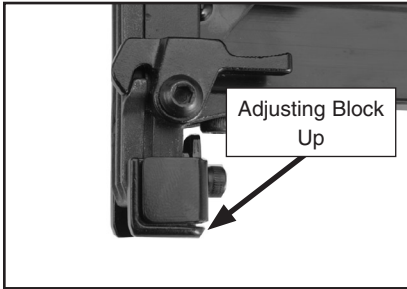

Figure 9. Moving the adjustment block up.
- If you want to increase the staple depth, then move the adjusting block up, toward the nose as shown in **Figure 9**.